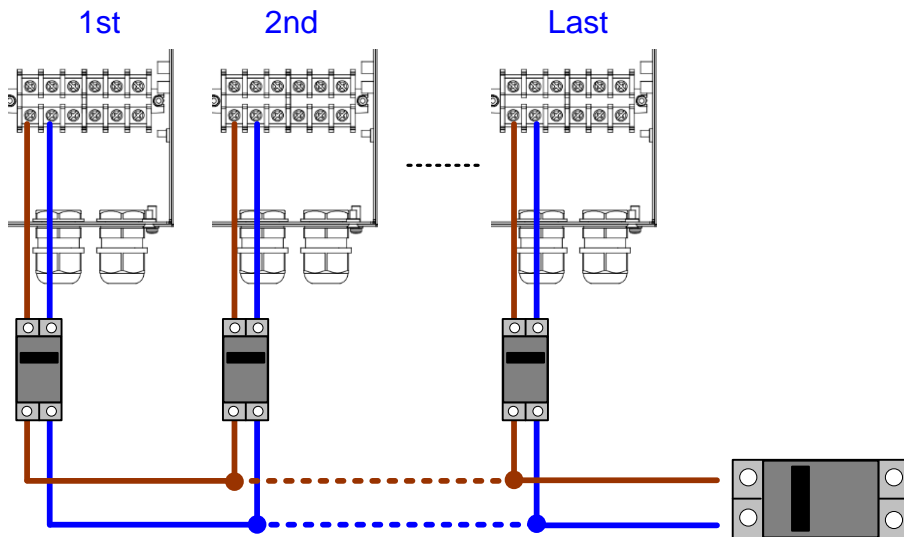

Fig. 3-10 EPS wires connection in parallel
- For 3-phase application, must install 3 or more inverters since each phase needs one unit at least. Max. 6 units in total, L1/L2/L3 configuration can be 2/2/2 or 1/2/2 or 3/2/1 units and so on. Refer to Fig. 3-10 for the wiring. Don't use the AC terminal of inverter as the connection common point.